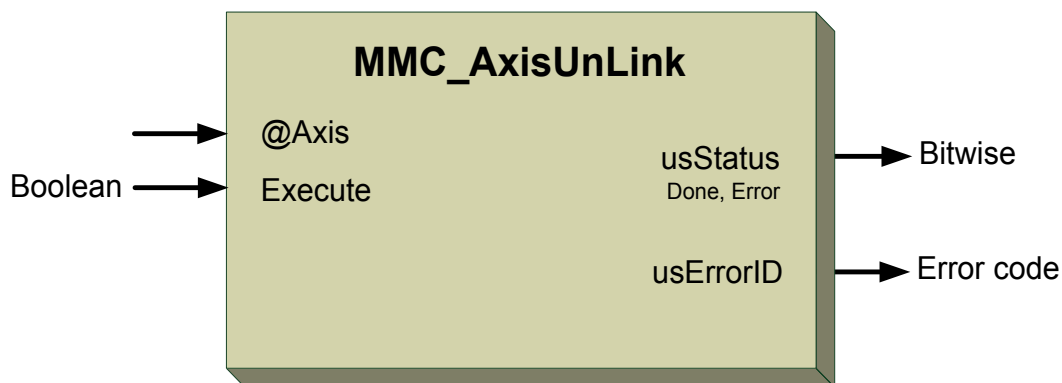

Figure 5-50: MMC\_AxisUnLink function
**Figure 5-50** describes the function for MMC\_AxisUnLink as applied within the IEC 61131 programming.